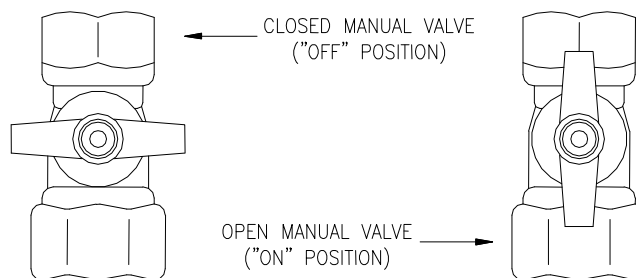

Figure 15. Manual Gas Valve.
1. STOP! Read the safety information above before proceeding. 2. Set the thermostat to the lowest setting. 3. Turn off all power to the electrical appliance. 4. This water heater does not have a pilot. It is equipped with a direct ignition device, which automatically lights the burner. Do not try to light the burner by hand. 5. Turn the manual valve located at the gas inlet of the appliance clockwise  to "OFF" (See Figure 15).	6. Wait (5) minutes to clear out any gas. If you then smell gas, STOP! Follow "B" in the safety information above on this label. If you don't smell gas, go to next step. 7. Turn the manual valve located at the gas inlet of appliance counterclockwise  to "ON" (See Figure 15). 8. Turn on all electric power to the appliance. 9. Set the thermostat to desired setting. 10. If the appliance will not operate, Follow the instructions "To Turn Off Gas To Appliance" and call your service technician or gas supplier.
1. Set the thermostat to the lowest setting. 2. Turn off all electric power to the appliance if service is to be performed.	3. Turn the manual valve at gas inlet of appliance clockwise  to "OFF" (See Figure 15).
1. Turn the gas shutoff valve on the gas supply inlet to the OFF position (See Figure 15).